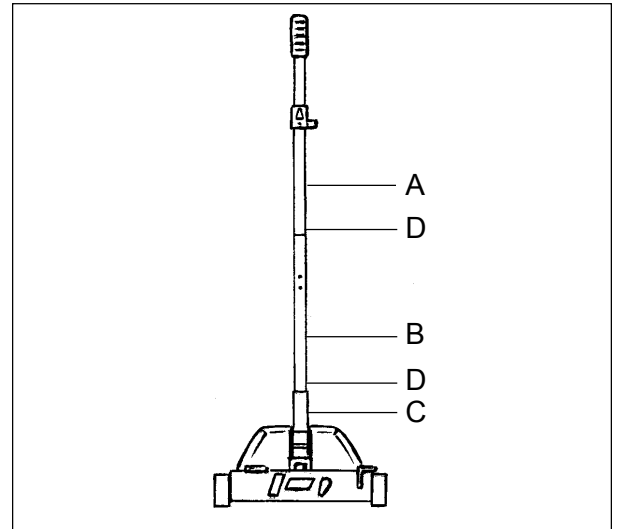

Figure 1
Attach upper (A) and lower (B) handle to handle socket (C) by aligning holes and securing with 2 part screws (D). See figure 1.